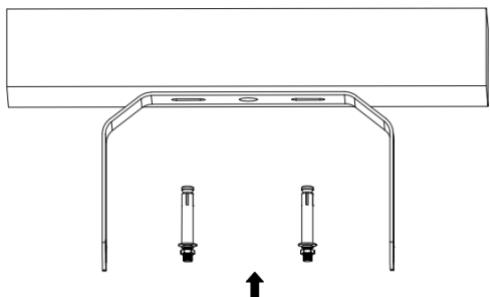
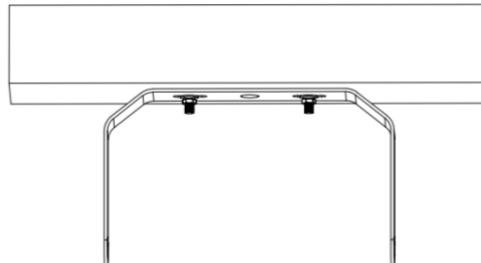

FIG.26
FIG.27
- 2) Align U shape bracket to the drilled holes on the ceiling, use expansion screws, fix the bracket onto the ceiling. (See FIG.26 and FIG.27)